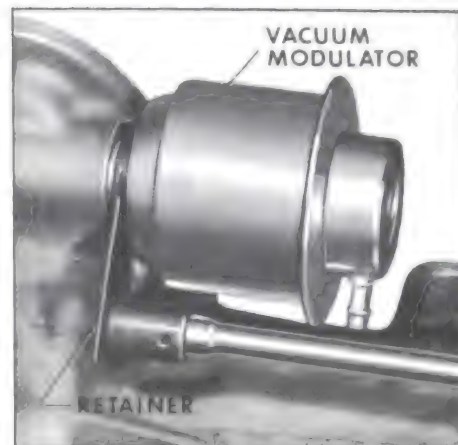

Figure 5-364
3. Install vacuum modulator retainer. Install retainer so tang points toward vacuum modulator. Torque bolt to 8-12 ft. lbs. See Figure 5-364.